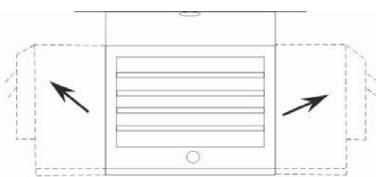

Figure 6
3. Adjust louvers to the desired position (see Figure 6)